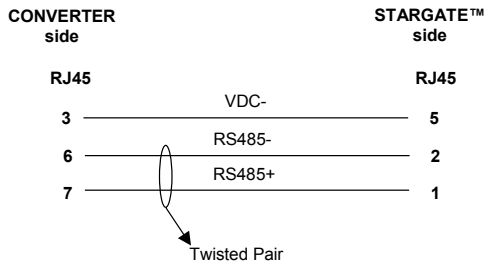

Figure 9 - Converter/STARGATE™ Custom Cable Pinout
- D. Custom cable (see Figure 9)